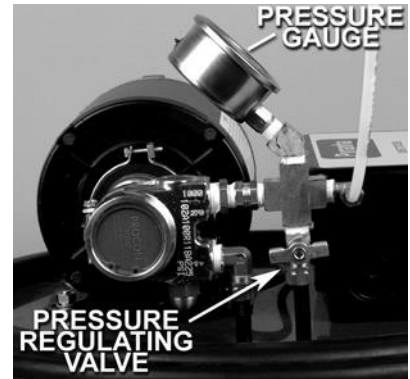

Figure 7 – Top of Drum Showing Pressure Gauge and Pressure Regulating Valve
9. Turn the pressure regulating valve clockwise until the pressure gauge reads between 190 and 210 PSI (figure 7) and all nozzles are spraying a consistently fine mist. Check again for leaks at the tubing connections.